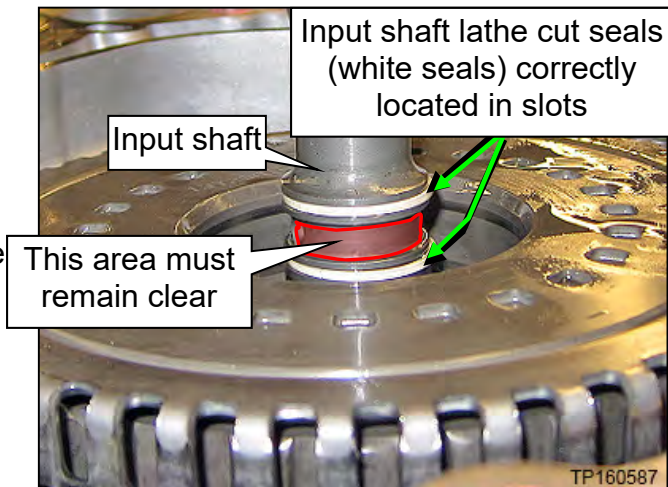

Figure 125
99. Confirm that the input shaft's lathe cut seals are in the correct positions (Figure 125).